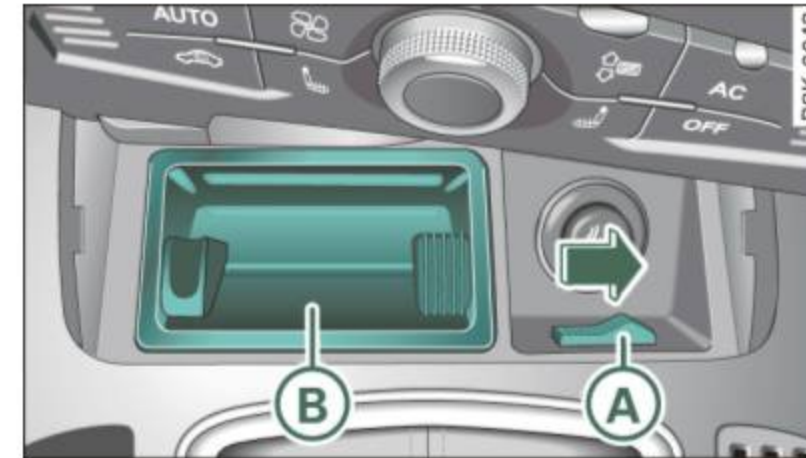

Fig. 92 Center console: front ashtray
- Release the ashtray insert by sliding the switch (A) ⇒ fig. 92 to the right.
- Remove the ashtray insert (B) ⇒ fig. 92.